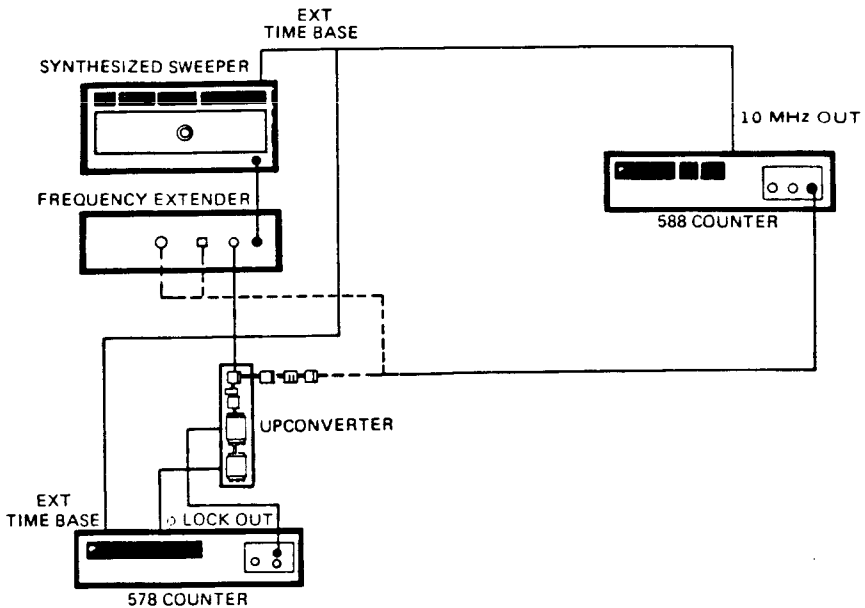

Figure 4-11. Band 3 Maximum Power Level Test Setup
1. Connect equipment as shown in Figure 4-11.